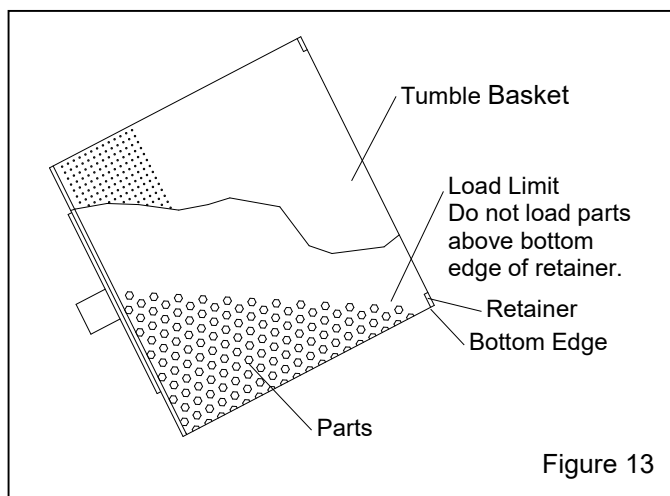

Figure 13
4.5.2 Unlatch and open the front door and load parts directly into the tumble basket. Do not overload the basket; maximum load should not exceed 35 lbs or rise above the bottom edge of the retainer, as shown in Figure 13.